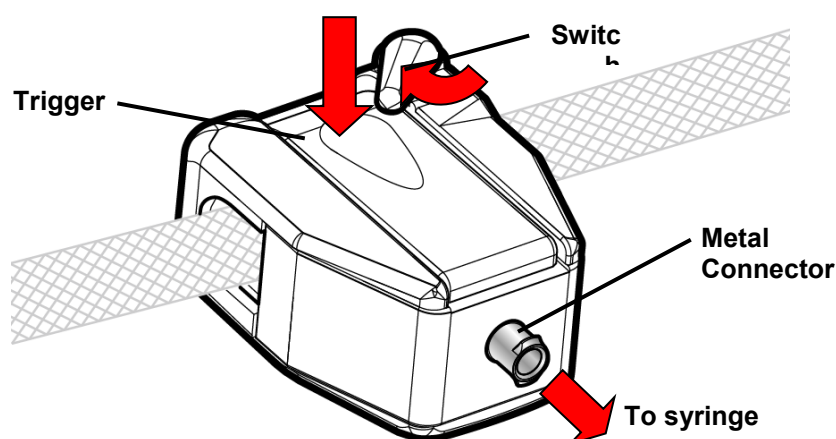

Figure 133 – Dialysate Sampling from the Dialysate Sample Port (Port Open)
3. Press down on the dialysate sampler port trigger and flip the switch to lock the port in the open position (see Figure 133). The dialysate path will now be open through the dialysate sample port to the syringe.